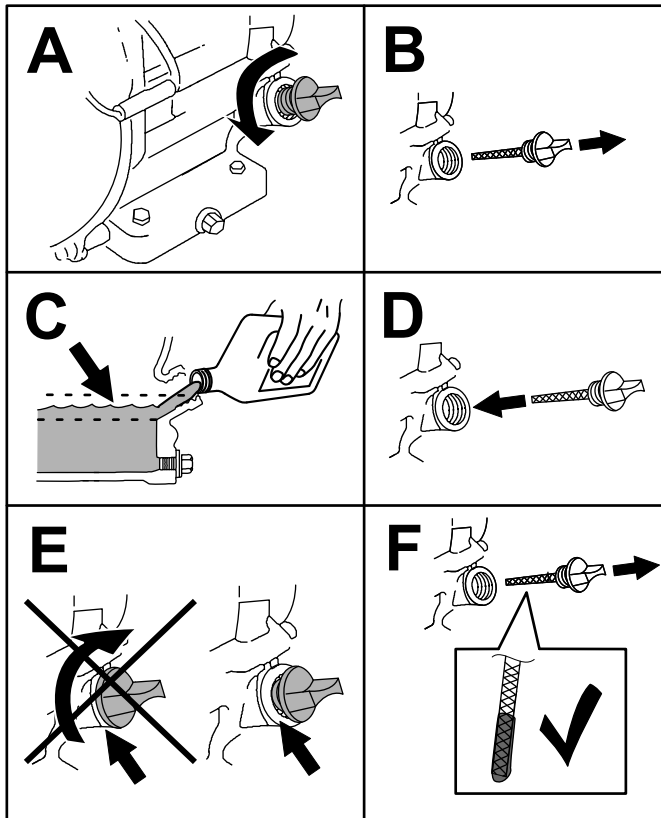

Figure 26
5. Slowly pour approximately 80% of the specified oil into the filler tube and slowly add the additional oil to bring it to the **Full** mark (Figure 26).